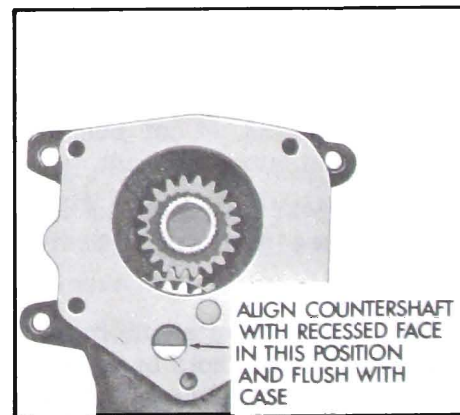

Figure 4-37—Countershaft Alignment
countershaft with shaft and tap shaft thru, pushing Tool J-5777 out front of case. Be sure the flat on the end of countershaft is horizontal and to the bottom of the case. See Figure 4-37.
14. After shaft is aligned as described above and as shown in Figure 4-37, drive shaft into case until the flat on shaft is flush with case.